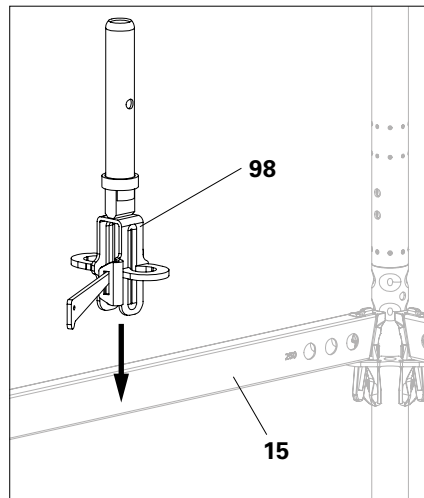

Fig. A11.13c
1. Pull the wedge out of the clamping part and put the clamping part over the ledger (15). (Fig. A11.13c)